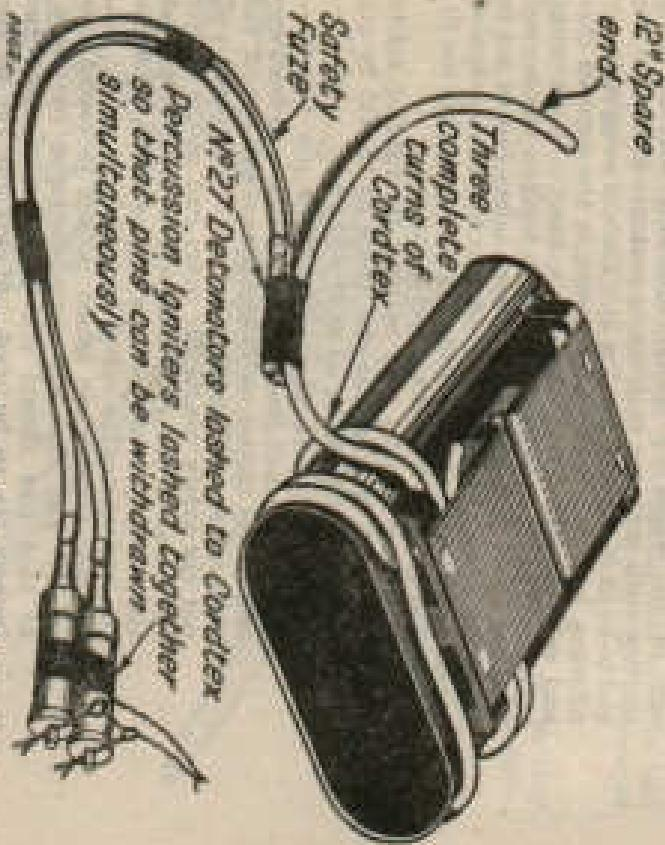

FIG. 6.
(i) Igniter, safety fuse, percussion Ma 3 (see Fig 6).—Crimp the small brass tube which extends from one end of the uputer on to the square-cut end of the safety fuse. When the fuse is to be ignited pull out the safety pin at the other end of the igniter by means of the ring attached to it. Pulling out the safety pin releases the stirrer which fires the cap and ignites the safety fuse.
All ranks concerned must understand the possible causes of failure and must also realize that however much care is taken, no initiating set can ever be guaranteed 100 per cent certain. The set cannot be tested, as the only test is to fire it. Consequently on all important demolition work, particularly assault work, and preferably always, TWO INITIATING SETS SHOULD BE USED. This gives a reasonable guarantee against failure. The use of two sets, whatever the importance of the job, is a good habit to form (see FIG. 6).
- (d) Firing charges of TB grenades, CESTEN, GC or "808" with detonating fuse.—As already stated, all charges should be initiated by a primer. To initiate a primer run the end of the fuse through it and tie a thumb-knot in the end of the fuse to prevent it from coming out. If this is not convenient, wedge it in with a small piece of wood or paper. Note.—The 75 grenade has a special primer incorporated in it and is initiated with 3 turns of cordtex round the end opposite the filler cap as shown in Fig 6.